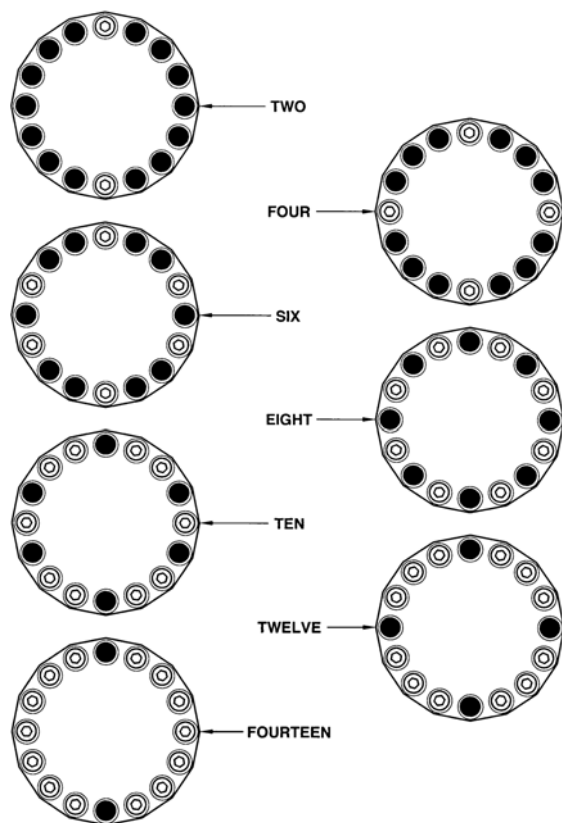

Figure 4-1. Rotor Balancing
- m. when using less than a full complement of sixteen tubes, the rotor can be operated at any speed up to its maximum speed with two, four, six, eight, ten, twelve, or fourteen samples; however, opposing pairs of tubes must be positioned as shown in figure 4-1.